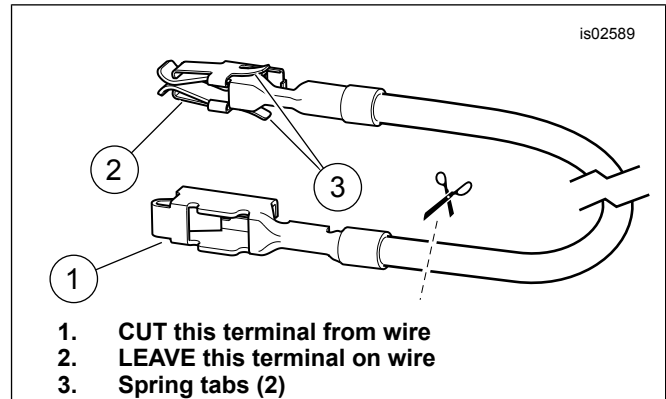
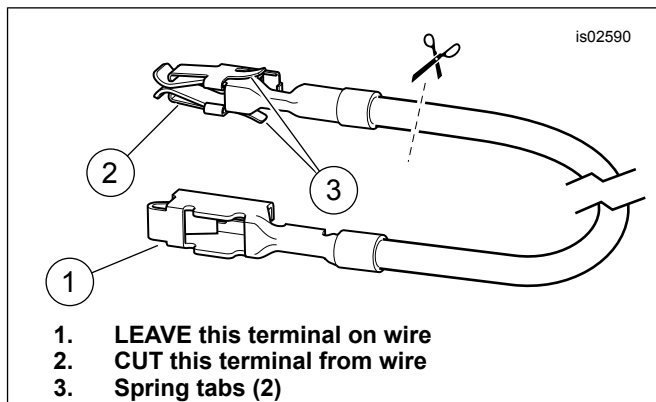
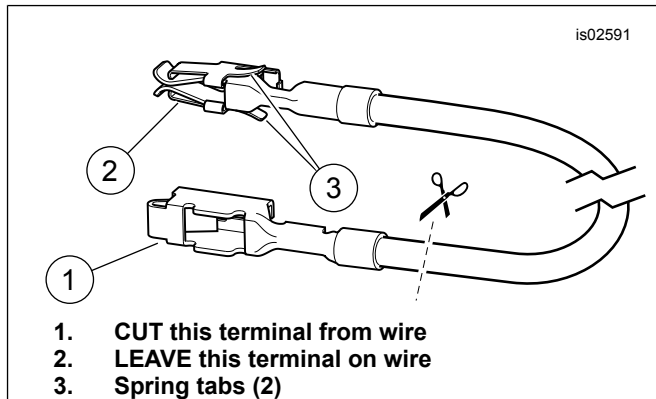
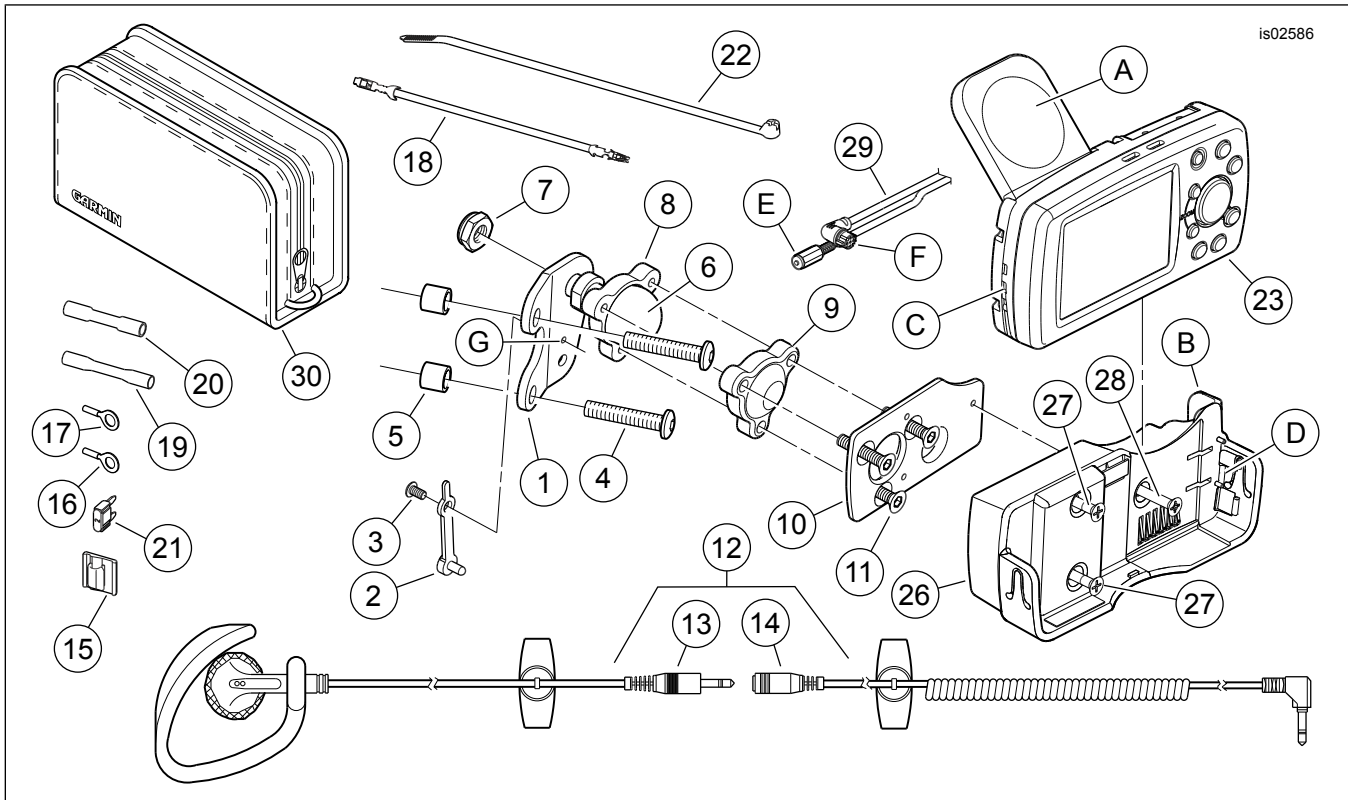

Figure 1. Fuse Block Adapter Wire (Dyna and Softail)
Figure 2. Fuse Block Adapter Wire (2004-2006 FL Touring) (2008 and Later FL Touring)
Figure 3. Fuse Block Adapter Wire (2007 FL Touring)
Figure 4. Service Parts, Cruising Mount and GPS Kits
- b. Obtain the Orange/White fuse block adapter wire (18) from the kit. Note the terminal on each end (see Figure 1). Only the terminal **WITH the spring tabs** will fit into the fuse cavity. Carefully cut the terminal **WITHOUT** spring tabs from the wire and discard it.
- d. Cut the excess length from the Red wire **on the Road Tech Quest harness** to within easy reach of the Orange/White adapter wire installed in Step 4c. Refer to the warning after Step 3, and the SEALED BUTT SPLICE CONNECTORS section of the Service Manual. Using the **blue** butt-splice connector (20) from the kit, splice the Red wire from the Road Tech Quest harness to the Orange/White adapter wire.
- e. See Figure 4. Install one of the 2 Amp fuses (21) from the kit into the OPEN fuse cavity to complete the circuit.
- c. Obtain the Orange/White fuse block adapter wire (18) from the kit. Note the terminal on each end (see Figure 1). Only the terminal **WITH the spring tabs** will fit into the fuse cavity. Carefully cut the terminal **WITHOUT** spring tabs from the wire and discard it.
- e. Cut the excess length from the Red wire **on the Road Tech Quest harness** to within easy reach of the Orange/White adapter wire installed in Step 5d. Refer to the warning after Step 3, and the SEALED BUTT SPLICE CONNECTORS section of the Service Manual. Using the **blue** butt-splice connector (20) from the kit, splice the Red wire from the Road Tech Quest harness to the Orange/White adapter wire.
- f. See Figure 4. Install one of the 2 Amp fuses (21) from the kit into the P&A IGN fuse cavity to complete the circuit.
c. Obtain the Orange/White fuse block adapter wire (18) from the kit. **For 2004 through 2006 models, and for 2008 and later models:** Note the terminal on each end (see Figure 2). Only the terminal **WITHOUT** the spring tabs will fit into the fuse cavity. Carefully cut the terminal **WITH** spring tabs from the wire and discard it. **For 2007 models only:** Note the terminal on each end (see Figure 3). Only the terminal **WITH** the spring tabs will fit into the fuse cavity. Carefully cut the terminal **WITHOUT** spring tabs from the wire and discard it.
f. Cut the excess length from the Red wire **on the Road Tech Quest harness** to within easy reach of the Orange/White adapter wire installed in Step 6e. Refer to the warning after Step 3, and the SEALED BUTT SPLICE CONNECTORS section of the Service Manual. Using the **blue** butt-splice connector (20) from the kit, splice the Red wire from the Road Tech Quest harness to the Orange/White adapter wire.
g. See Figure 4. Install one of the 2 Amp fuses (21) from the kit into the P&A IGN fuse cavity to complete the circuit. Re-install the three fuses removed in Step 6d into the proper cavities.
d. See Figure 4, the warning after Step 3, and the SEALED BUTT SPLICE CONNECTORS section of the Service Manual. Using the **red** butt-splice connector (19) from the kit, splice the Red wire together with the Orange/White wires cut in step 7b.
8. **All models:** Open the cover of the fuse holder on the Road Tech Quest harness. Plug the remaining 2 Amp fuse (21) from the kit into the fuse holder, and close the cover.